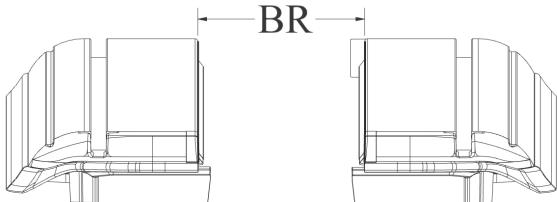
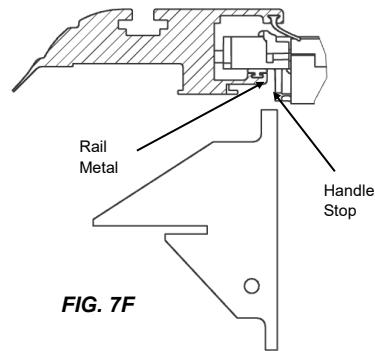

FIG. 7C
FIG. 7F
Now tighten your clamp turn knobs hand tight. Finally, check for proper spacing by measuring between the rails by attempting to insert the BR Gauge in between the rail metal and the handle stop (Fig 7F). You can also check the between the rail measurement at the canister and the tailgate end of the rails. The measurements should be equal to or less than those in Figure 7C. The Clamp Extensions have been pre-installed with brackets and shims to achieve the proper Between the Rail dimension (BR) when placed on an average factory truck bed. However, not all truck beds are average dimensionally and some have optional plastic caps or over the rail spray-in liners.